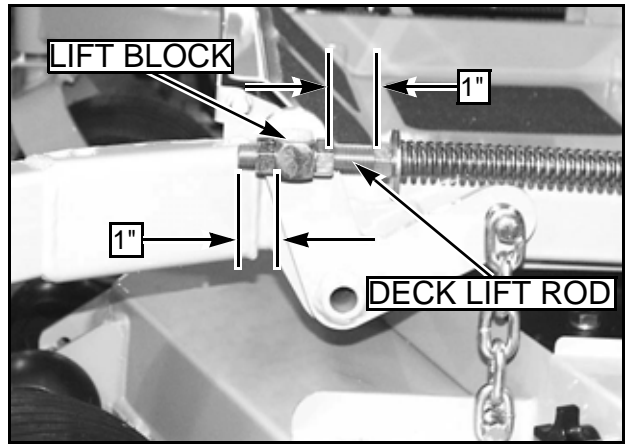

FIG. 39
9. Set the amount of threads protruding on the deck lift rod from the lift block at approximately 1" "FIG. 39".
28. Compress the deck lift assist springs so that there is 1" of space between the front nut and on the spring and the rear nut on the deck lift block "FIG. 39". Typical both sides.